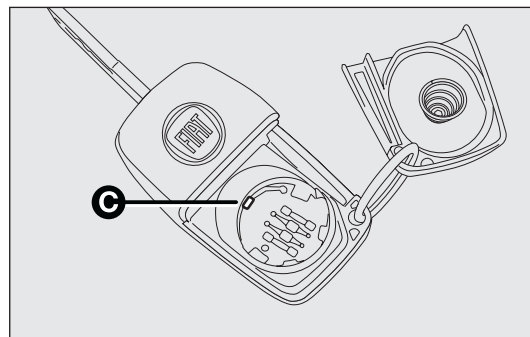

fig. 9
- ☐ the new battery shall be fitted under the catch C-fig. 9; then refit the lid and press it down until hearing the locking click.